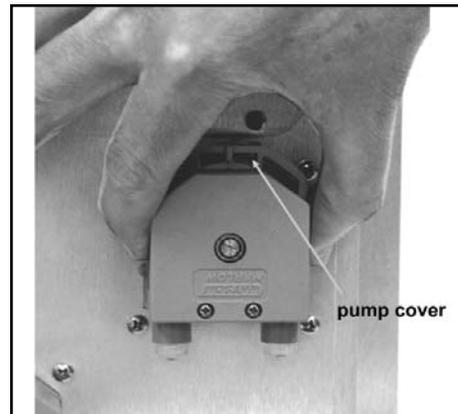

FIGURE 9-7.
3. Using your thumb and forefinger gently pinch the sides of the pump cover. Slide the cover upwards to remove it. See Figure 9-7.